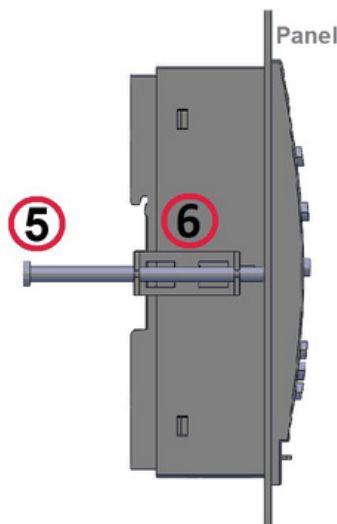

Figure 6: Device Profile
- The device is positioned vertically on the panel, as illustrated in Figure 6 below.
- The M4 metal YSB screws, 60 mm in length and shown as number ⑤ are inserted and tightened through the dual holes in the handles of the double-pronged metal brackets marked as number ⑥ in Figures 6 & 7, securing the device to the panel with the help of a screwdriver.